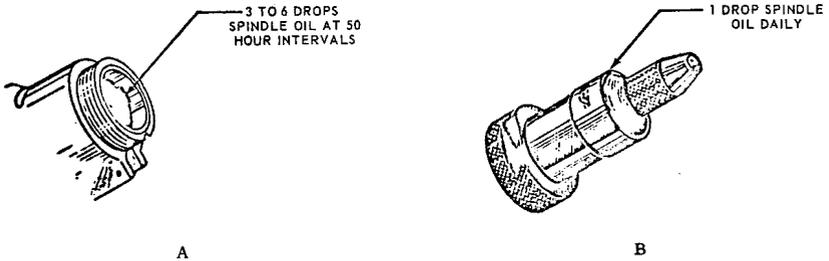

Figure 14. Lubrication Points of Wire Wrap Tool.
- 7.02 At 50 hour intervals, remove the nose assembly and add 3 to 6 drops of spindle oil to the upper clutch block and spindle, as illustrated in Figure 14 A. Replace the nose assembly and run the tool for one or two minutes before starting production.
- 7.03 The STOP PAWL located under the sleeve on the nose assembly must be lubricated DAILY. Apply 1 drop of spindle oil between the sleeve and guide sleeve assembly (Figure 14 B).